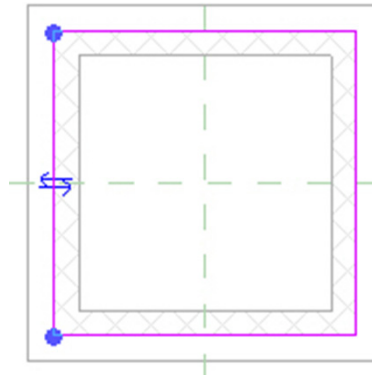

Figure 7–44
3. Verify that all the lines are on the outside of the walls, as shown in Figure 7–44. If necessary, select the flip arrow to flip the lines to the outside.